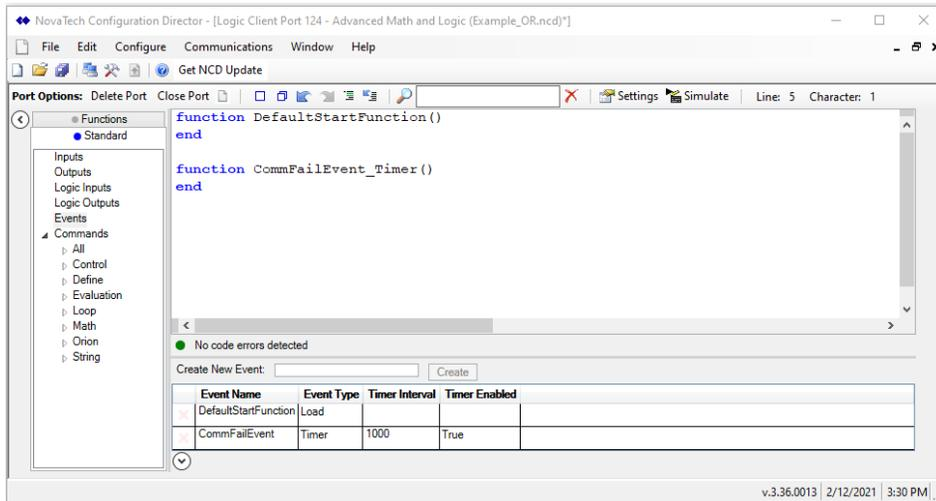

Figure 31: Create the CommFailEvent
Step 1: Create the Logic Timer Event (Figure 31)
The following window will be displayed (Figure 31). Notice the new `CommFailEvent_Timer ()` function has been added to the logic editor. The code for ORing the Comm Fail points will be placed into this function.